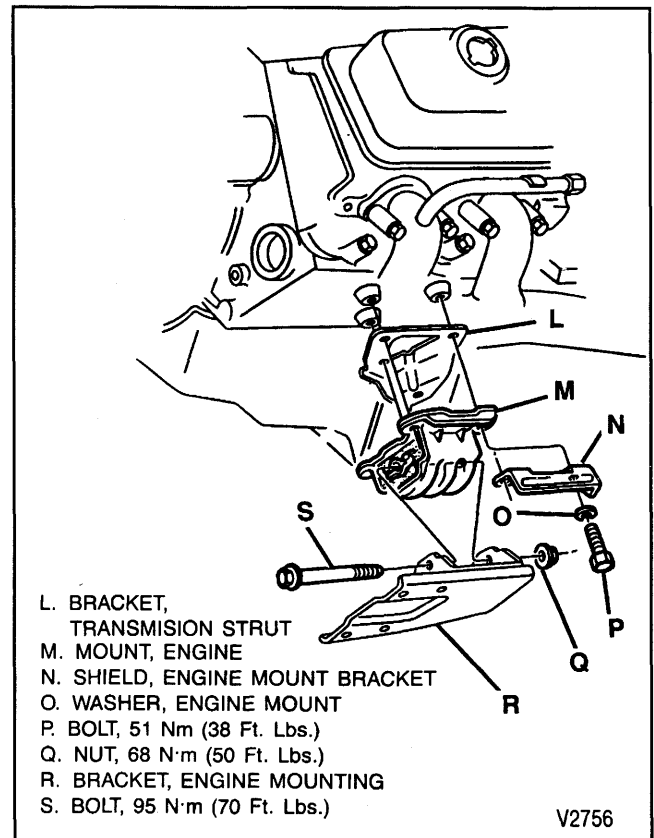

Figure 52—Front Engine Mounts to Brackets
- Through-bolt or nut to specifications (figure 52).